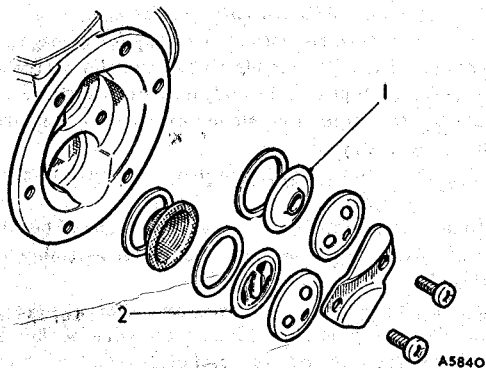

Fig. 9. The valve assembly, AUF 400 range
13. In the AUF 400 range of pumps the valve assemblies are retained internally in the body by a clamp plate secured with self-tapping screws (see Fig. 9). The inlet valve recess in the body is deeper than the outlet recess to allow for the filter and extra washer. Another feature of these pumps is the incorporation of an air bottle on the inlet and a flow-smoothing device on the delivery side.